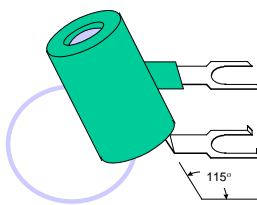

Figure 4-3
- c. Daylight controls (Figure 4-3) are photoresistors that change resistance with respect to light levels. As the light level decreases, the resistance of the daylight control increases. The photoresistor is used on the flasher to turn the light off in the daytime. A flasher **without** a daylight control will operate continuously, 24 hours a day. Daylight controls are available in three types from ELC Baltimore: